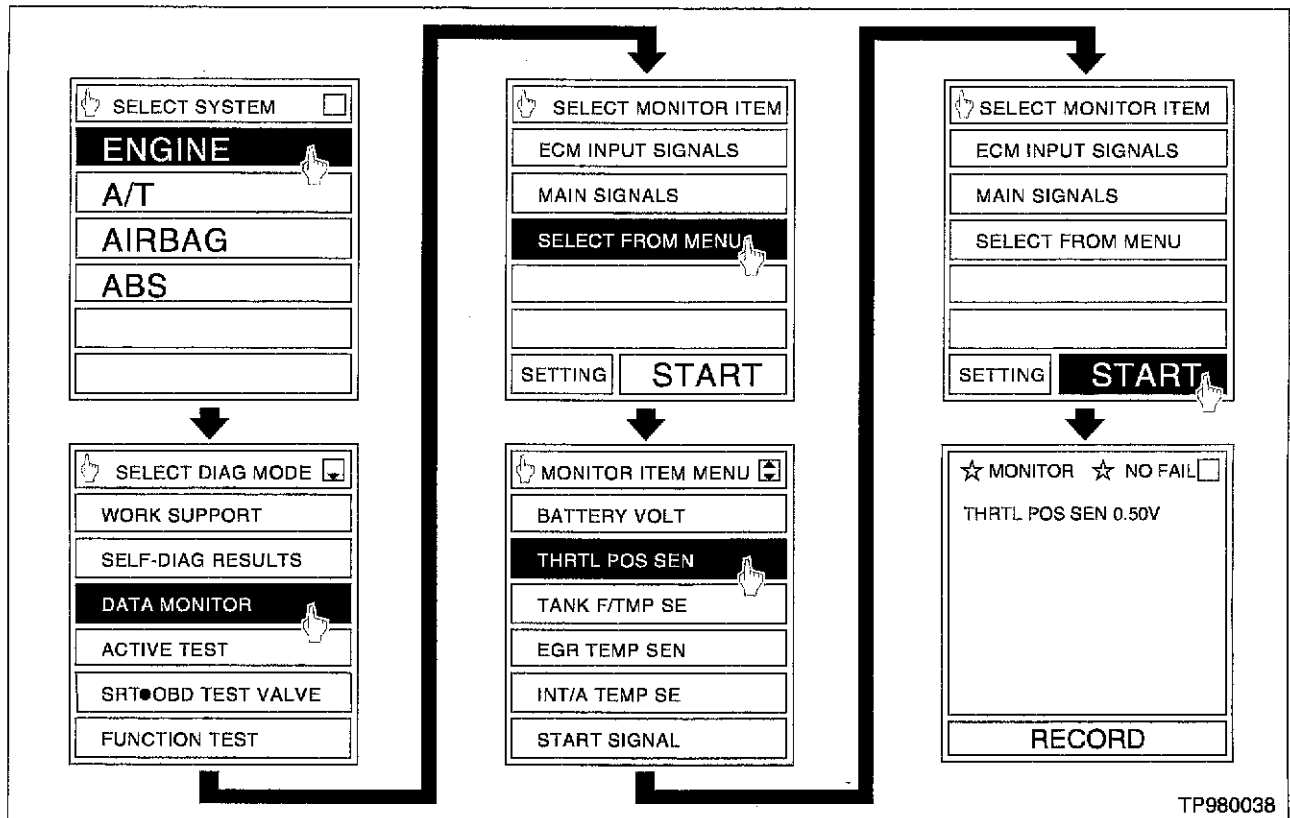
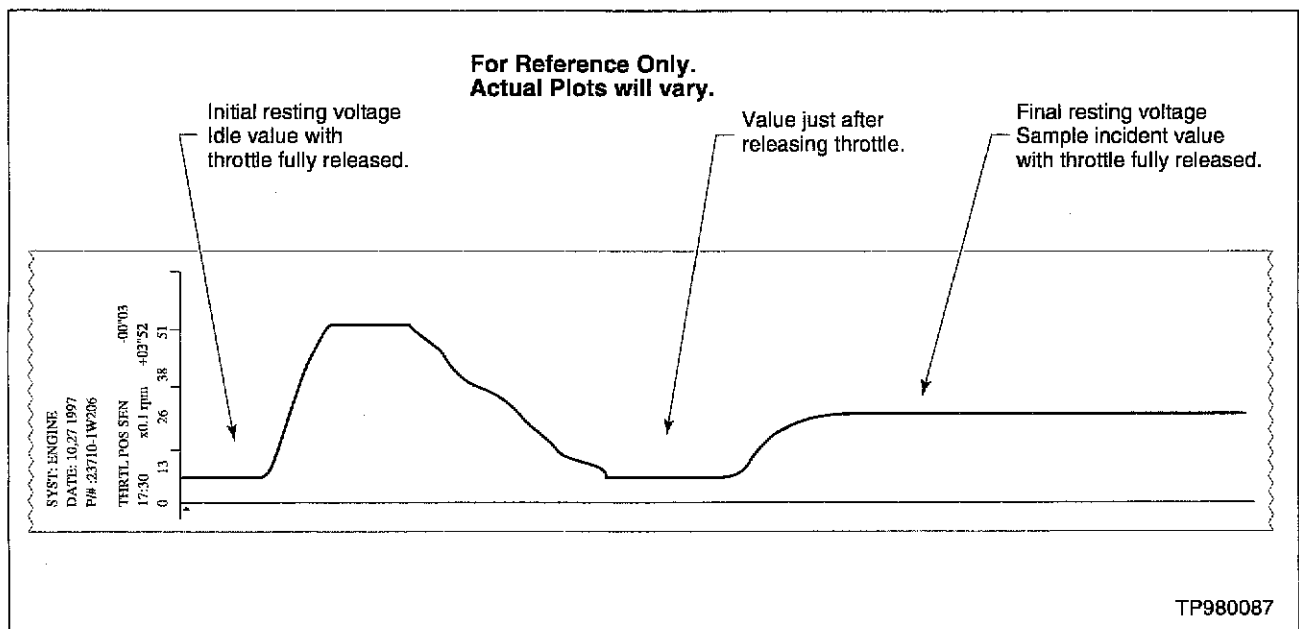

Figure 1
Figure 2
3. Using CONSULT, select THRTL POS SEN in the Data Monitor mode (see Figure 1, page 2).
NOTE: Figure 2 is a visual representation of the incident and is **for reference only**. It will be easier to perform this test based on the actual voltage values displayed (as in the last frame of Figure 1) rather than to graph the voltage output. *Use the actual voltage values to monitor the voltage change.*